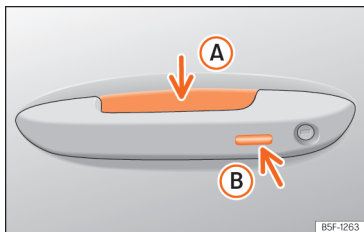

Fig. 72 Driver door lever: sensor surfaces.
»» **Fig. 72**
- Touch the sensor surface »» **Fig. 72 B** on the outside of the door handle. All turn signals flash once.
- Within 5 seconds, touch the sensor on the outside of the door handle »» **Fig. 72 B** once. Do not grip the handle while doing so. This temporarily deactivates the Keyless Access system.
To close all the electric windows and the sunroof using the **comfort function**, keep a finger for a few seconds on the locking sensor surface »» Fig. 72 B of the door handle until the windows and roof have closed.